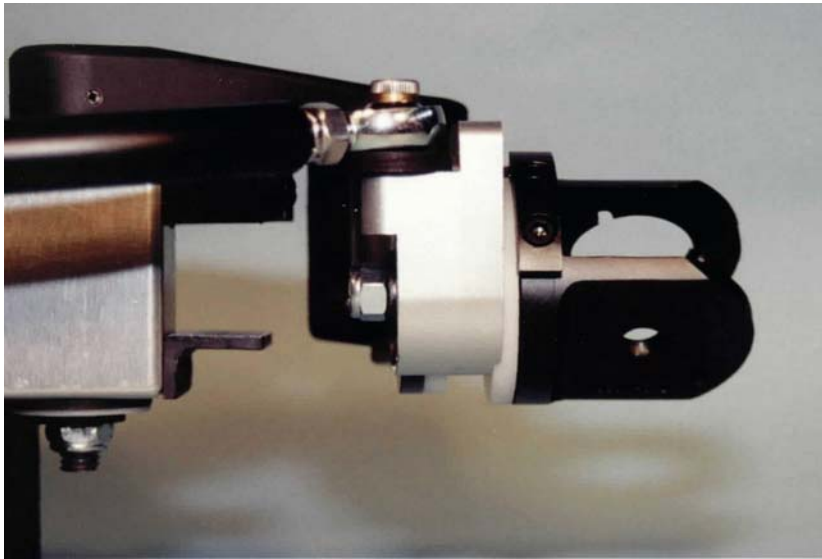

Figure 8.20- Shoulder yoke assembled to yoke mount
20. Place one Shoulder Joint Spring Washer (T1SHM037) over the end of each shoulder yoke. Secure the yoke with a flat steel washer (1 1/8" OD, 11/32" ID) and a 5/16-18 nylock hex nut $\{ \frac{1}{2} \}$. This completed assembly is shown in **Figure 8.20**. Tighten the nut to provide a joint resistive torque of 1 g.